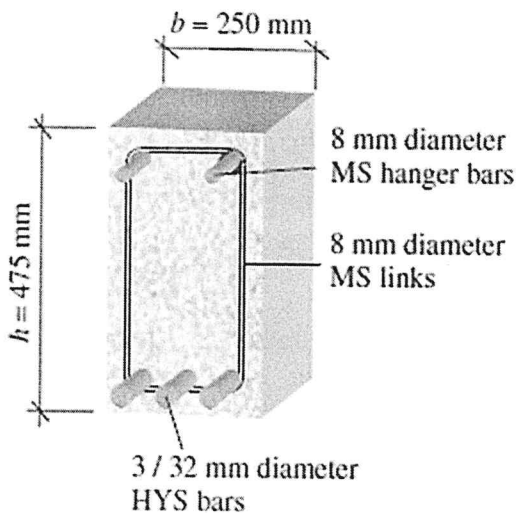

Figure Q4(a)
- b) A concrete beam is simply supported over a 5.0 m span as shown in Figure Q4(b). Using the data given, determine suitable shear reinforcement. **(10 Marks)**